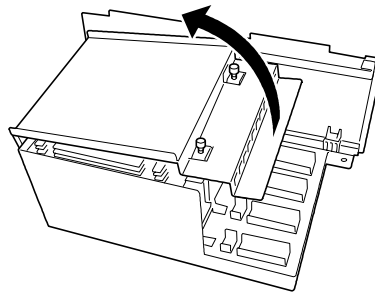

Figure 4-25. Removing the CPU Cover
- 15.** On CPU box 1 loosen the two thumbscrews on its CPU cover and remove the cover, see Figure 4-25